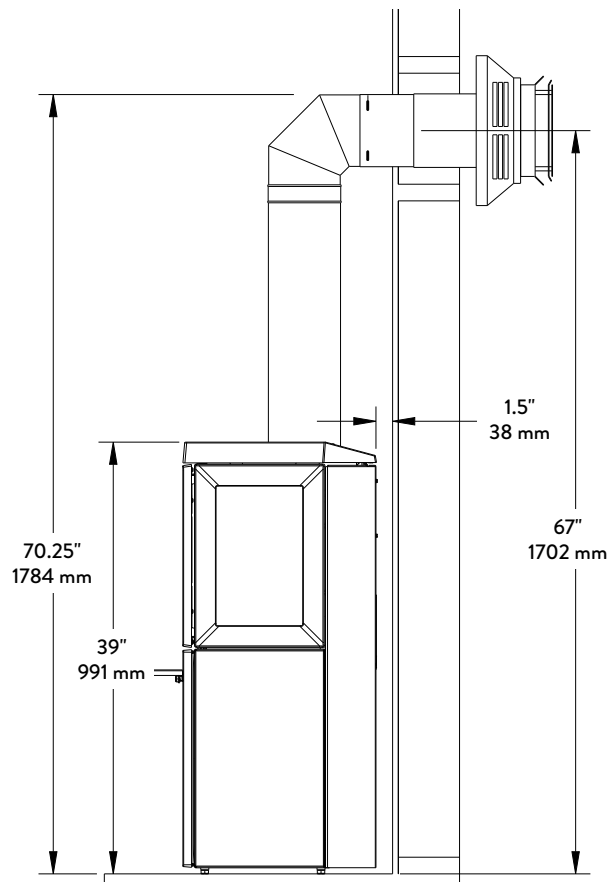

Figure 6.8.
- Any horizontally-terminated vent run must include a minimum 12" (61 cm) vertical rise with a minimum 6" horizontal run. See figs. 6.8, 6.9, 6.10.